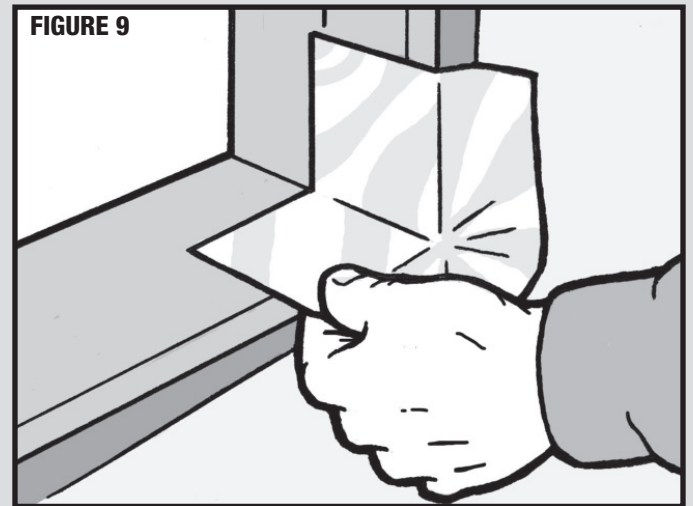

FIGURE 9
5.1.1. Head flashing should extend beyond jamb flashing by 1" on both sides. (Figure 9)
4.1. Fit the flashing corner guard tightly and squarely into the 90 degree joint and smooth out. (Figure 9)